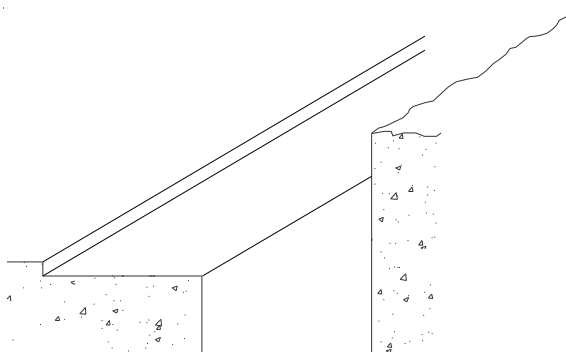

Figure 2
**STEP 2.** Provide the blockout for Balco, Inc. expansion joint covers in accordance with the approved shop drawings, see Figure 2. Blockouts may be formed at the time of the initial concrete pour or at a later time by removing material from the slab. To ensure a good installation, use level and true blockout materials. Inspect the blockout to see that it is flat, level, sound, and clear of all debris. Prepare and clean the blockout as needed.